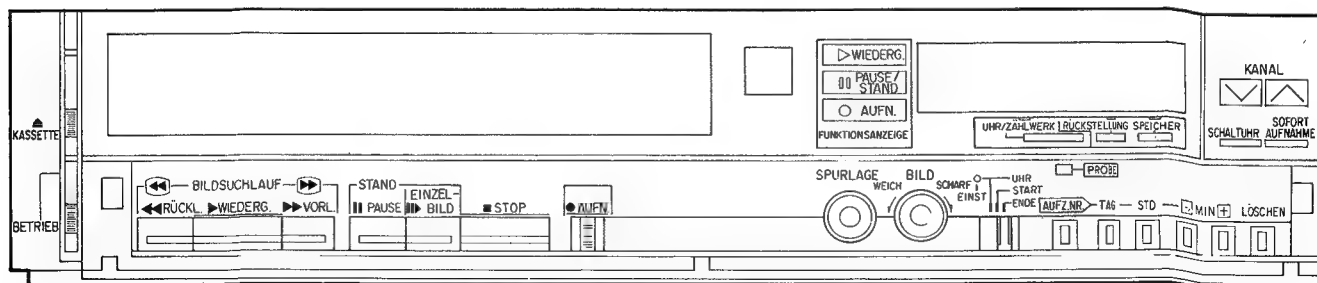

Fig. 4-3-1 Operation keys
(1) Operation keys
As can be seen in Fig. 4-3-1, 24 push switches and 1 slide switches are used to control the timer, channel selection, logic mode, counter, and the power of the unit. In addition to this, wireless remote control codes are read through pin ③⑦.
(2) Clock